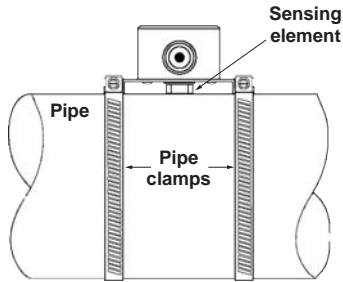

Figure 3 - Installing the TE-704-B, TE-704-C, or TE-704-D Sensor
- Apply a thin layer of A-505 thermal compound to the sensing element. Refer to **Figure 3**.